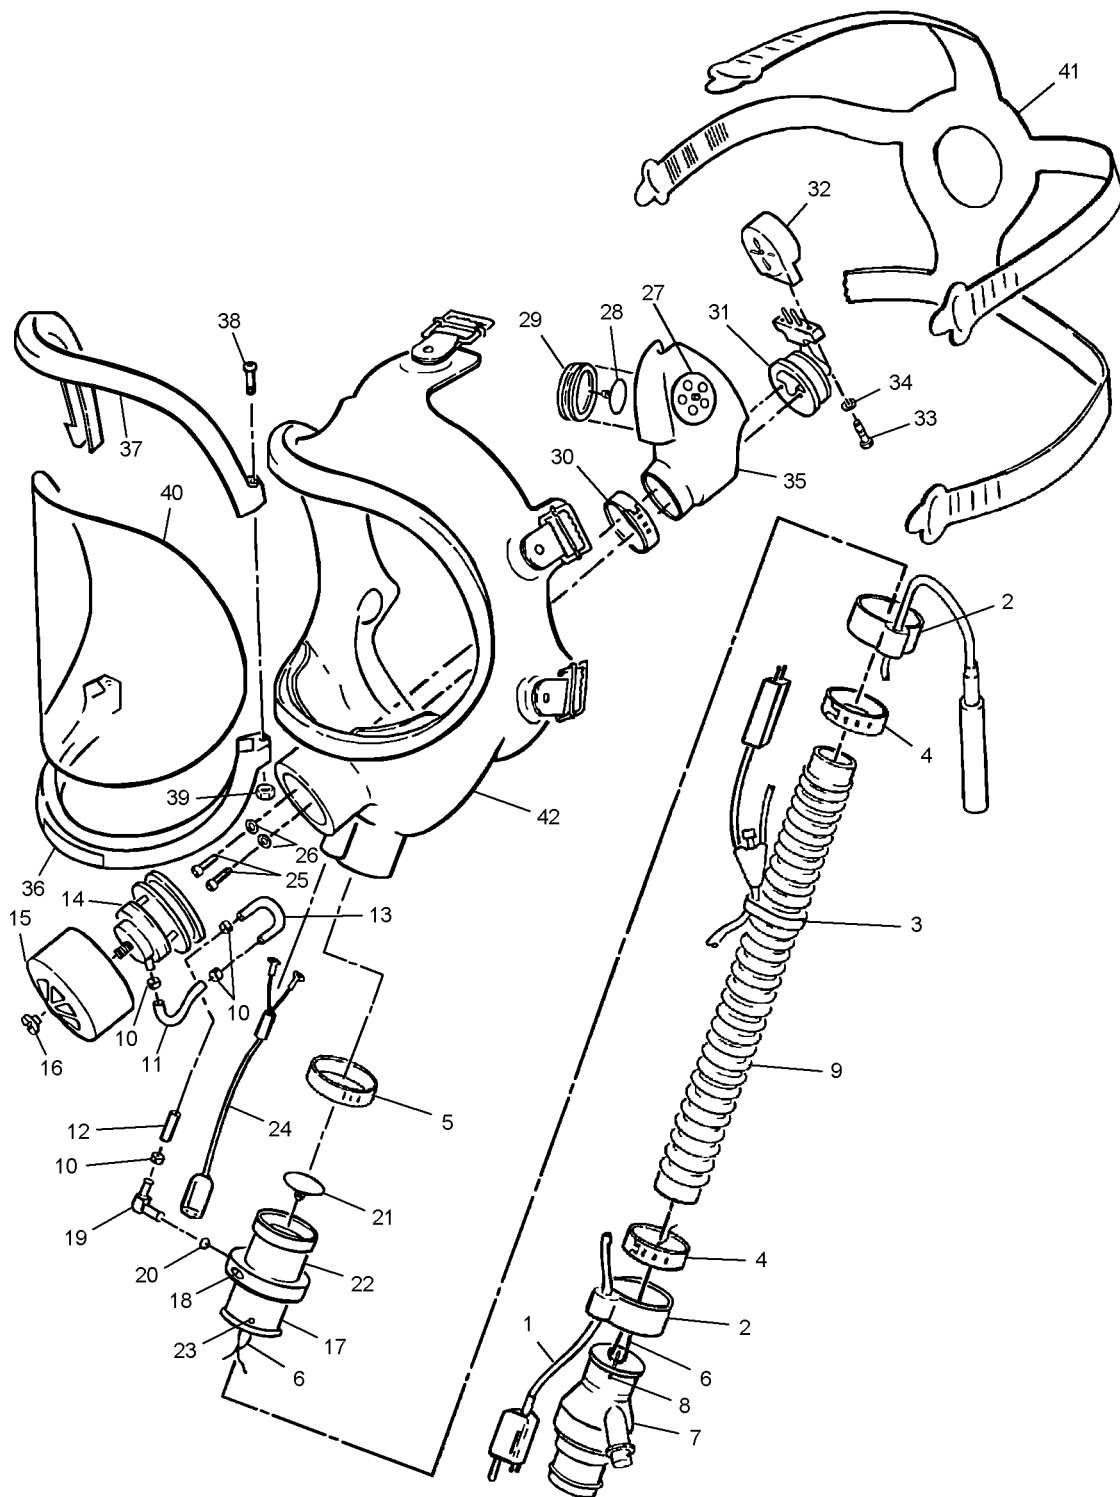

Figure 7-5. Full-Face Oxygen and Smoke Mask Assembly (P/N 651-469), IPB
**7-25. Assembly.** Assemble oxygen/smoke mask using following procedures. Refer to figure 7-5 for parts identification.